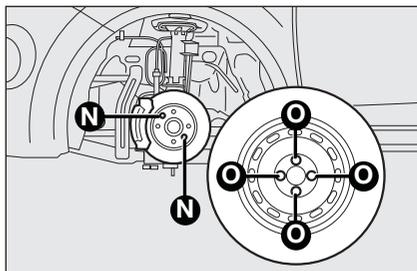

fig. 7
- fit the space-saver wheel, ensuring that the pin **N**-fig. 7 is aligned with one of the wheel holes **O**;